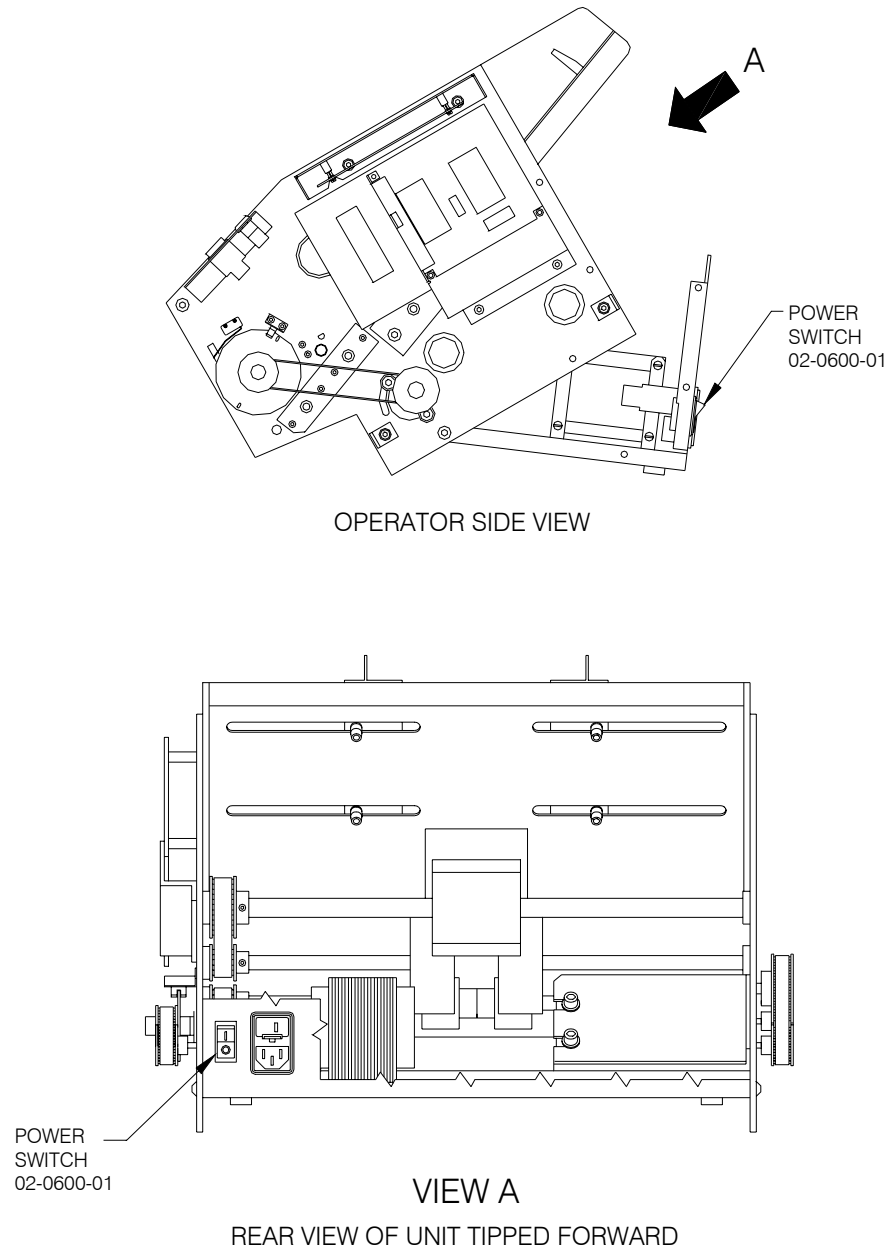

Figure 7.20 -- Replacing the Power Switch
2. Unplug the CONNECTORS from the POWER SWITCH. (Refer to **Figure 7.20.**)